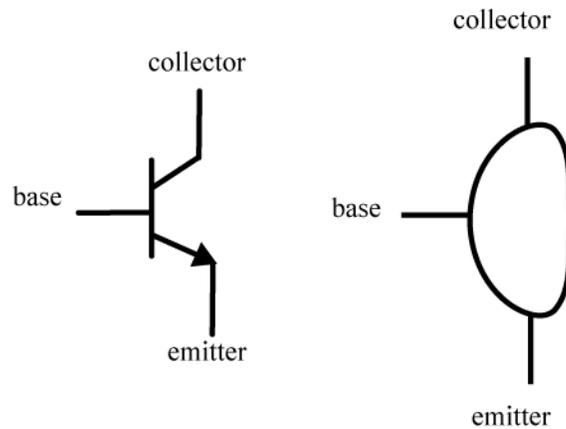

Figure 4. Circuit symbol for an npn BJT (left) and physical device (right).
1) The npn BJT is represented by the symbol shown in Figure 4, and it has three terminals. If you hold the BJT with the flat part to the your right, then the collector is on top, the base is in the middle, and the emitter is on the bottom.